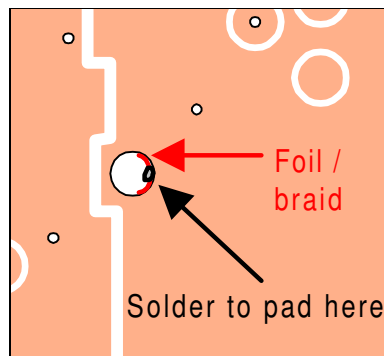

Fig 3: Solder point for AGND pad - and location of foil / braid joining the front and rear AGND planes. Rear view of board.
7. Using the smallest amount of solder, tin about 1/4 of the circumference - on only the very edge of the 3mm hole - on the component side. See Fig 3. Wick off all surplus solder.
This process is to solder the pad to AGND on both sides of the board. Refer **Fig 3**. You need to avoid using excessive quantities of solder since there is a risk of it wicking under the chip - and ultimately it could bridge AGND and DGND. Should this happen, it will all still "work", but you will lose about 3dB of SFDR - so it is well worth taking excessive precautions to avoid.
22. Use a pointed bit on the soldering iron. Apply the bit to one point on the pad on the very edge of the 3mm hole. See **Fig 3**. Add just enough solder - ie very little - both to tin the pad and to flow-solder the pad to the component-side AGND plane. It does not require very much heat.
24. Cut a short length of copper foil to about 2mm wide (or flatten some very clean braid from some sub-min coax). Tin one end - and trim it so that only the very end is tinned. Form it round eg a 2mm drill bit so that it can be inserted into the 3mm hole - round the circumference - but occupying no more than half the circumference. See **Fig 3**.